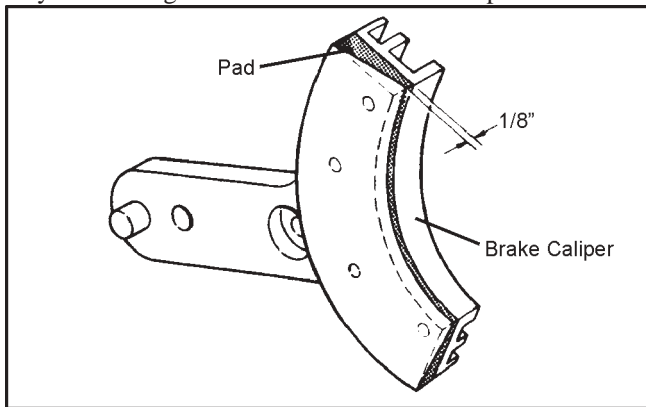

Figure 7-22. Measuring the distance between the brake disc and brake pad.
- worn to 3 mm (1/8") thickness as shown in Figure 7-22;